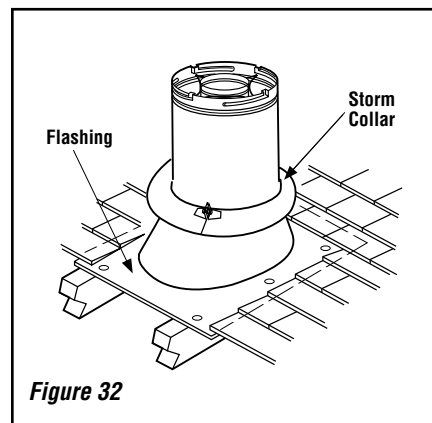

Figure 32
I. Install the roof flashing - Extend the vent sections through the roof structure. Install the roof flashing over the vent section and position such that the vent column rises vertically (use carpenter's level) (**Figure 32**). Nail along perimeter to secure flashing or adjust roofing to overlap the flashing edges at top and sides only and trim where necessary. Seal the top and both sides of the flashing with waterproof caulking.
J. Install the storm collar - Install the storm collar, supplied with the flashing, over the vent/flashing joint. See **Figure 32**. Loosen the storm collar screw. Slide collar down until it meets the top of the flashing. Tighten the adjusting screw. Apply non-combustible caulking or mastic around the circumference of the joint to provide a water tight seal.